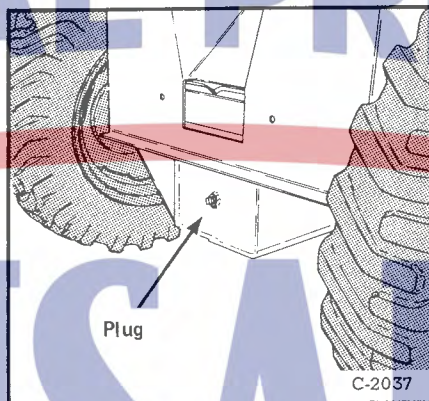

Fig. 43 Chaincase Check/Fill Plug
2. Remove the plug from the front of the transmission housing (Fig. 43).